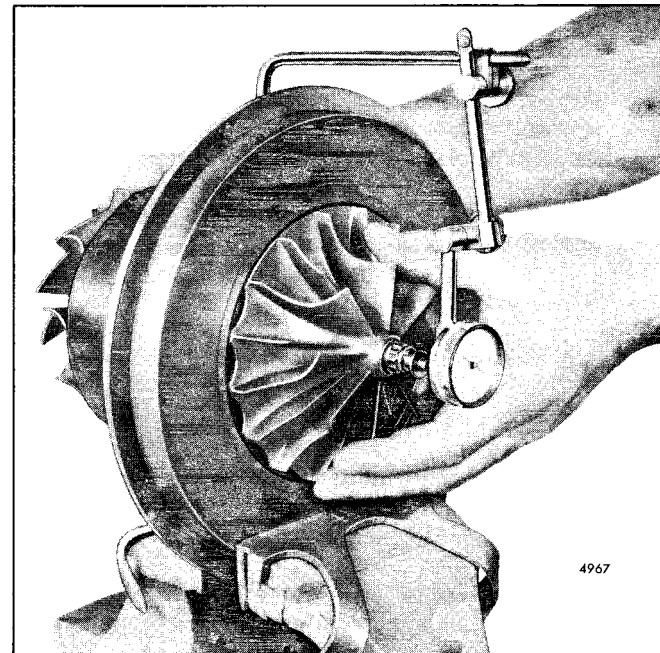

Fig. 14 - Checking Bearing Axial End Play
- a. Clamp the center housing assembly in a bench vise equipped with soft jaws (Fig. 14).
- b. Fasten the dial indicator and magnetic base (J 7872-2) to the center housing so that the indicator tip rests on the end of the rotating shaft on the compressor side (Fig. 14).
18. Position the turbine housing (6), as marked at disassembly, against the center housing (27) and secure it in place.
- a. Secure the T18A40 turbine with four clamps (5), four new lockplates (4) and eight bolts(3). Tighten the bolts to 100-130 lb-in (11-15 N*m) torque.